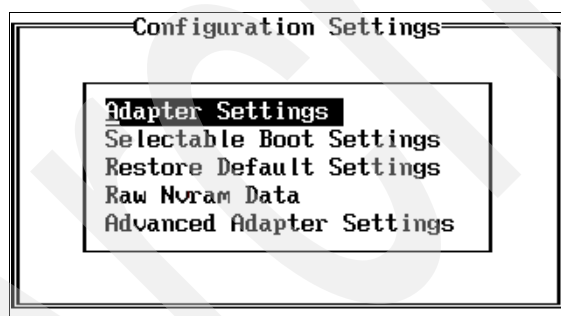

Figure 9-4 QLogic - Configuration submenu
4. You need to discover the WWN of your FC port. The WWN is the unique identifier, which will be seen by the DS3000. Select Configuration Settings and in the next submenu Adapter Settings (Figure 9-4).